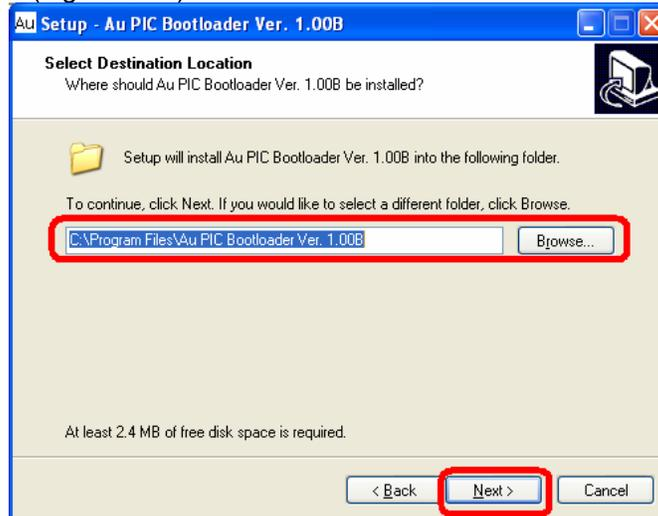

Figure 6-17
4. A “Select Destination” window will pop up, use default path: C:\Program Files\ AU PIC Bootloader”, then click “next” to continue (Figure 6-17).